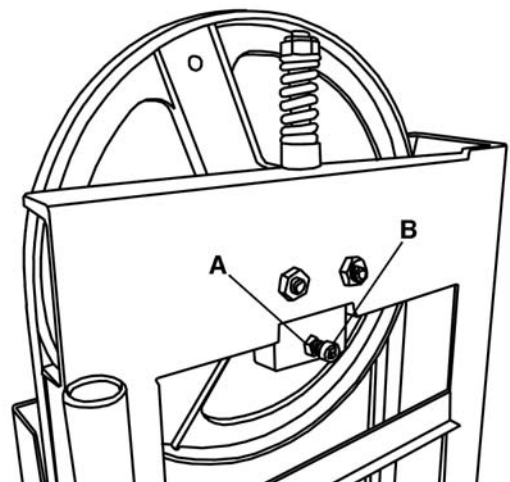

FIGURE 19
The blade must be properly centered on the wheels, remove the upper wheel cover. The blade tracking is controlled by the position of the cap screw (B) Fig.19 and hex. nut (A).